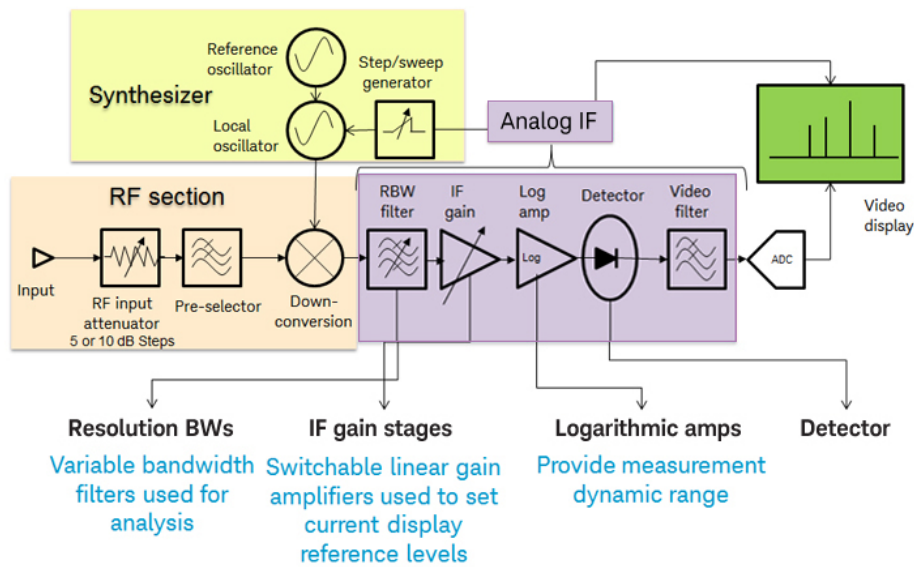

Figure 1. Superheterodyne receiver architecture with analog IF.
It is important to understand the differences between analog and digital IF architectures. Figure 1 features a basic diagram of a traditional superheterodyne receiver with an analog IF section. The RF section accepts input signals over the specified instrument frequency range and uses the frequencies generated by the local oscillator (LO) to downconvert (or mix) these input signals to an IF. Input frequency ranges can cover up to 40 GHz or higher, whereas IF frequencies tend to be hundreds of megahertz. Downconverting the input signals to a lower single frequency makes it easier and less expensive to develop circuits used to digitize and further analyze the input signals.